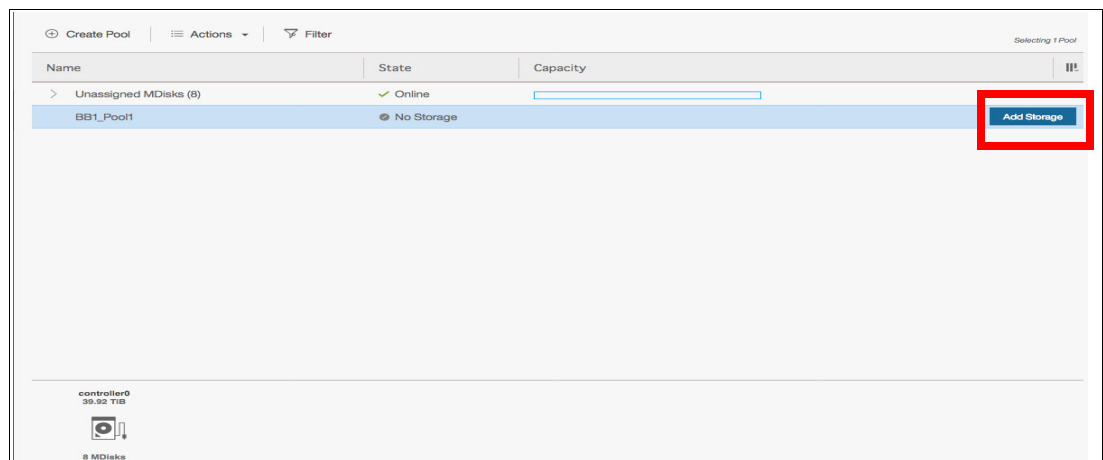

Figure 4-52 Select add storage
5. In our example the AC3 control enclosure recognized the storage from the AE3, so we can simply add the storage to the pools, as shown in Figure 4-52.